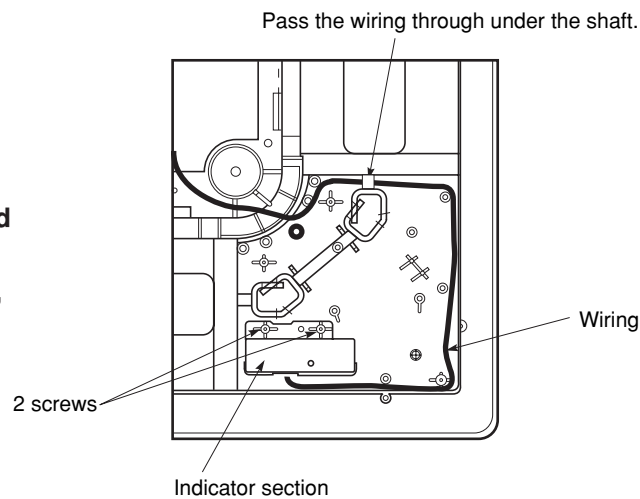

Fig. 7-6
- (1) Remove the ceiling panel.
- (2) Remove the corner cover behind the mark section. (3 screws)
- (3) Remove the mark section inside the ceiling panel. (2 screws)
- (4) Install the indicator section in the location where the mark section was attached. (2 screws)
- (5) Form the wire to match the panel ribs as shown in Fig. 7-6.
- (6) Install the corner cover. (Restrain the wire with the corner cover.)